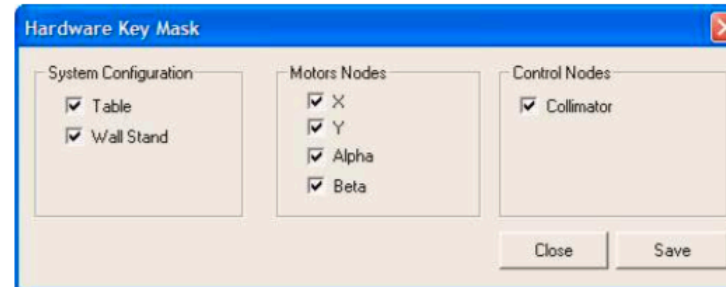

Figure 1: Hardware Key Mask
4. Mark all possible setting and save, an example is shown in Figure 1: